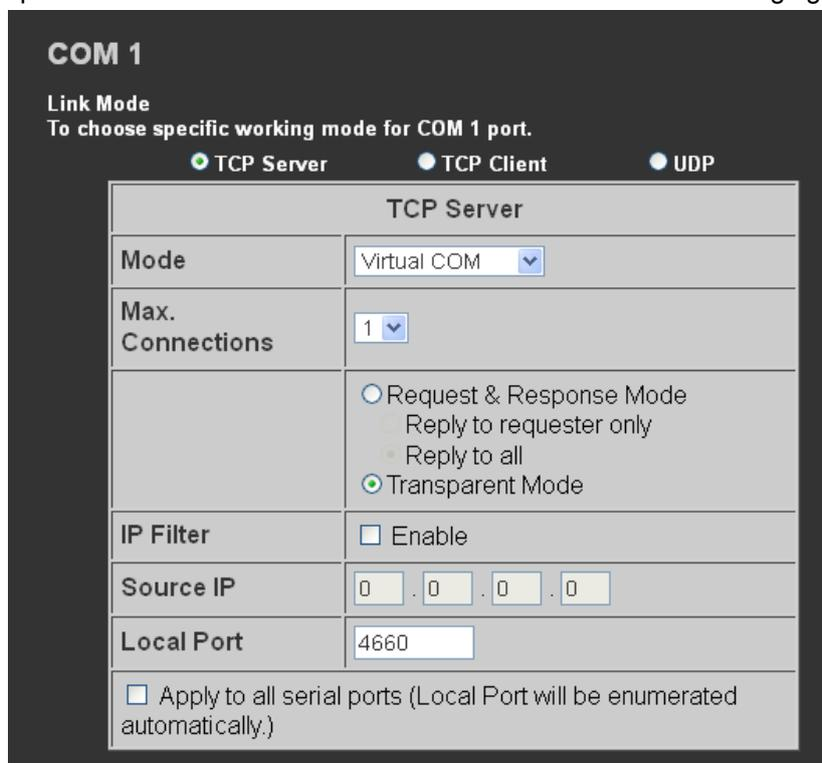

Figure 4.2 Enable Virtual Com Or you can
- Enter in the local port number in the **“Local Port”** field as indicated in the following figure: (ref Figure 4.2)